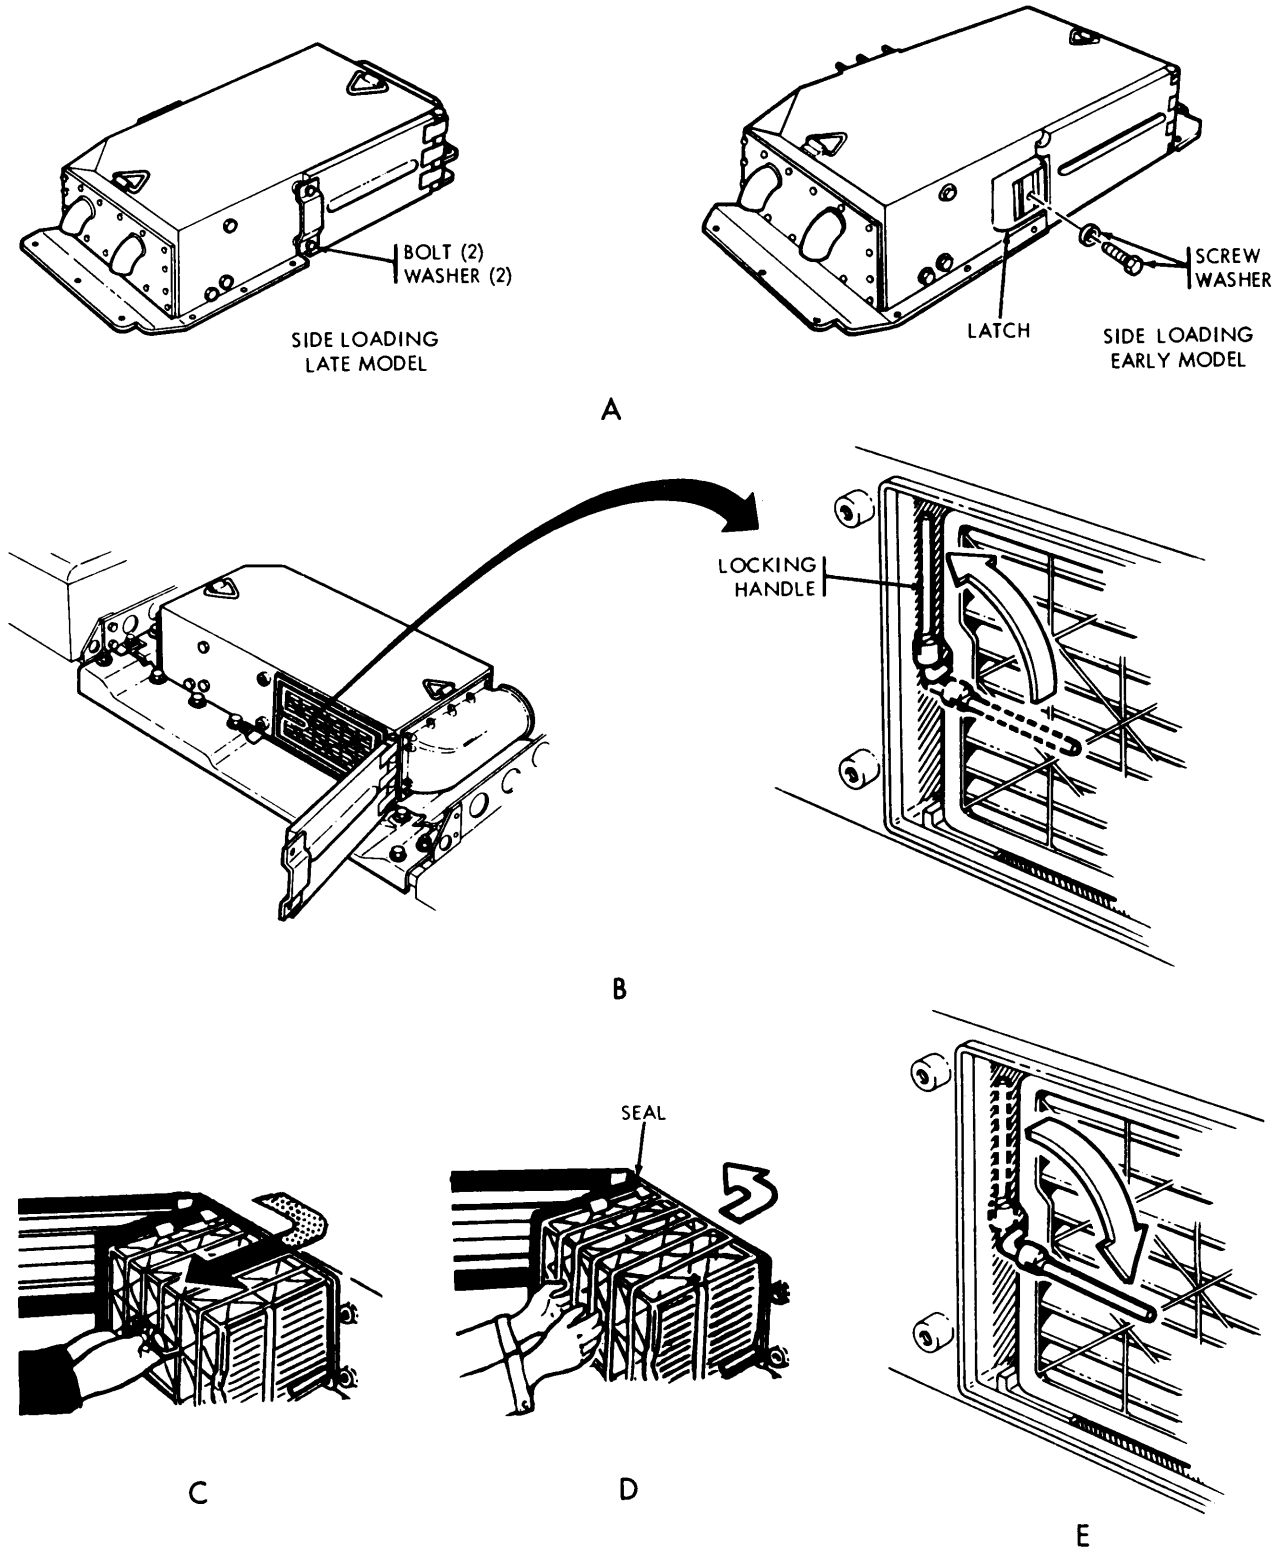

Figure 3-2. Side loading air cleaner filter element replacement.
b. Side Loading Air Filter Element (Fig. 3-2).